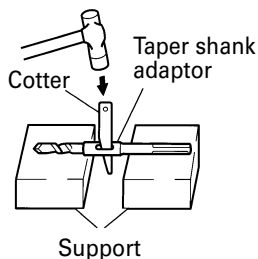

Fig. 10
- (2) Turn the power on and drill a base hole.
(3) After cleaning out dust with a syringe, attach the plug to the anchor tip and drive in the anchor with a manual hammer.
(4) To remove the drill bit with taper shank, insert a cotter into the slot of the taper shank adaptor, place supports under the Rotary Hammer and tap the cotter with a manual hammer. (Fig. 10)